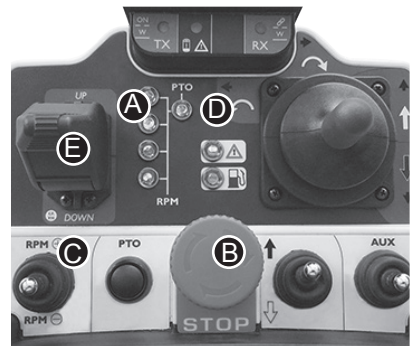

Fig 15
5.7 PTO (Mowing blade - switching ON) (Fig 15)
Adjust the engine speed by the throttle (C) over the 2800 rpm (green leds (A) - Fig 15). With the green light it is possible to start the PTO by pressing the button (B).
5.8 CUTTING HEIGHT ADJUSTMENT (Fig.15)